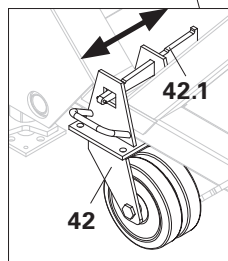

Fig. B4.03a
2. Push the Guide Roller (42) over the profile tube and secure with a wedge. (Fig. B4.03a + B4.03b)